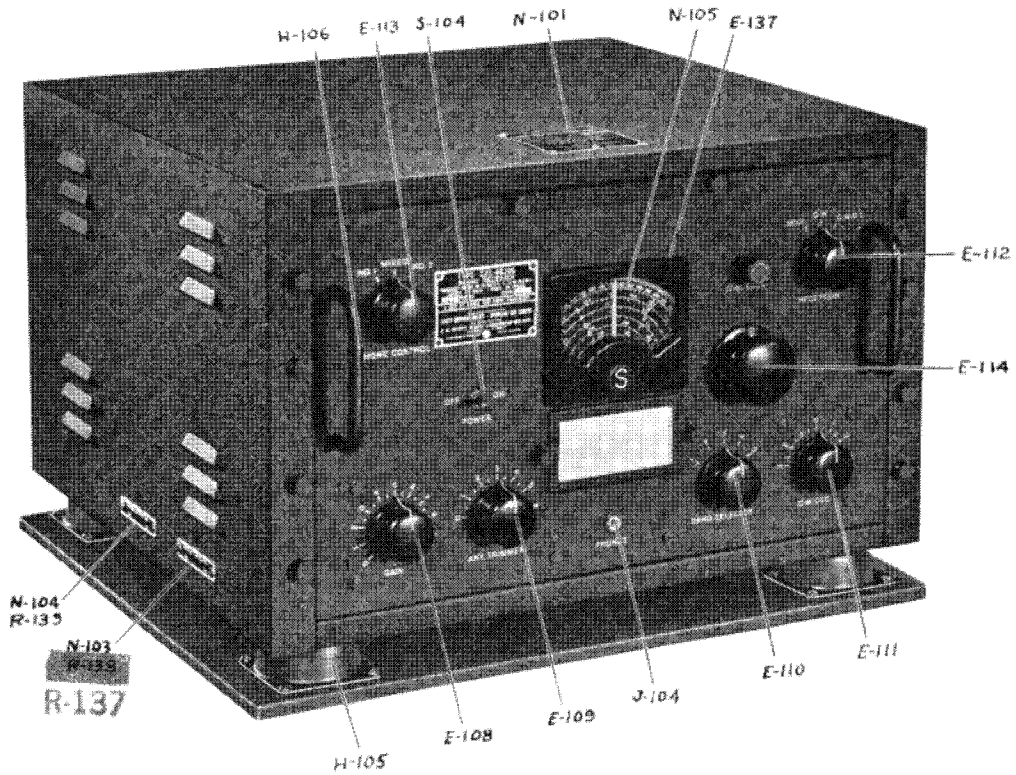

FIG. 1 LEFT FRONT OBLIQUE VIEW, RADIO RECEIVER
with rubber shock mounts at the four bottom corners of the cabinet. The front panel, to which the chassis is secured, forms the enclosure for one side of the cabinet. The general appearance and type of construction employed are shown in Figures 1 and 2.
2.16 The receiver panel layout is shown in Figure 1, and the location and functions of the various controls are described in Section 5, Operating Instructions.